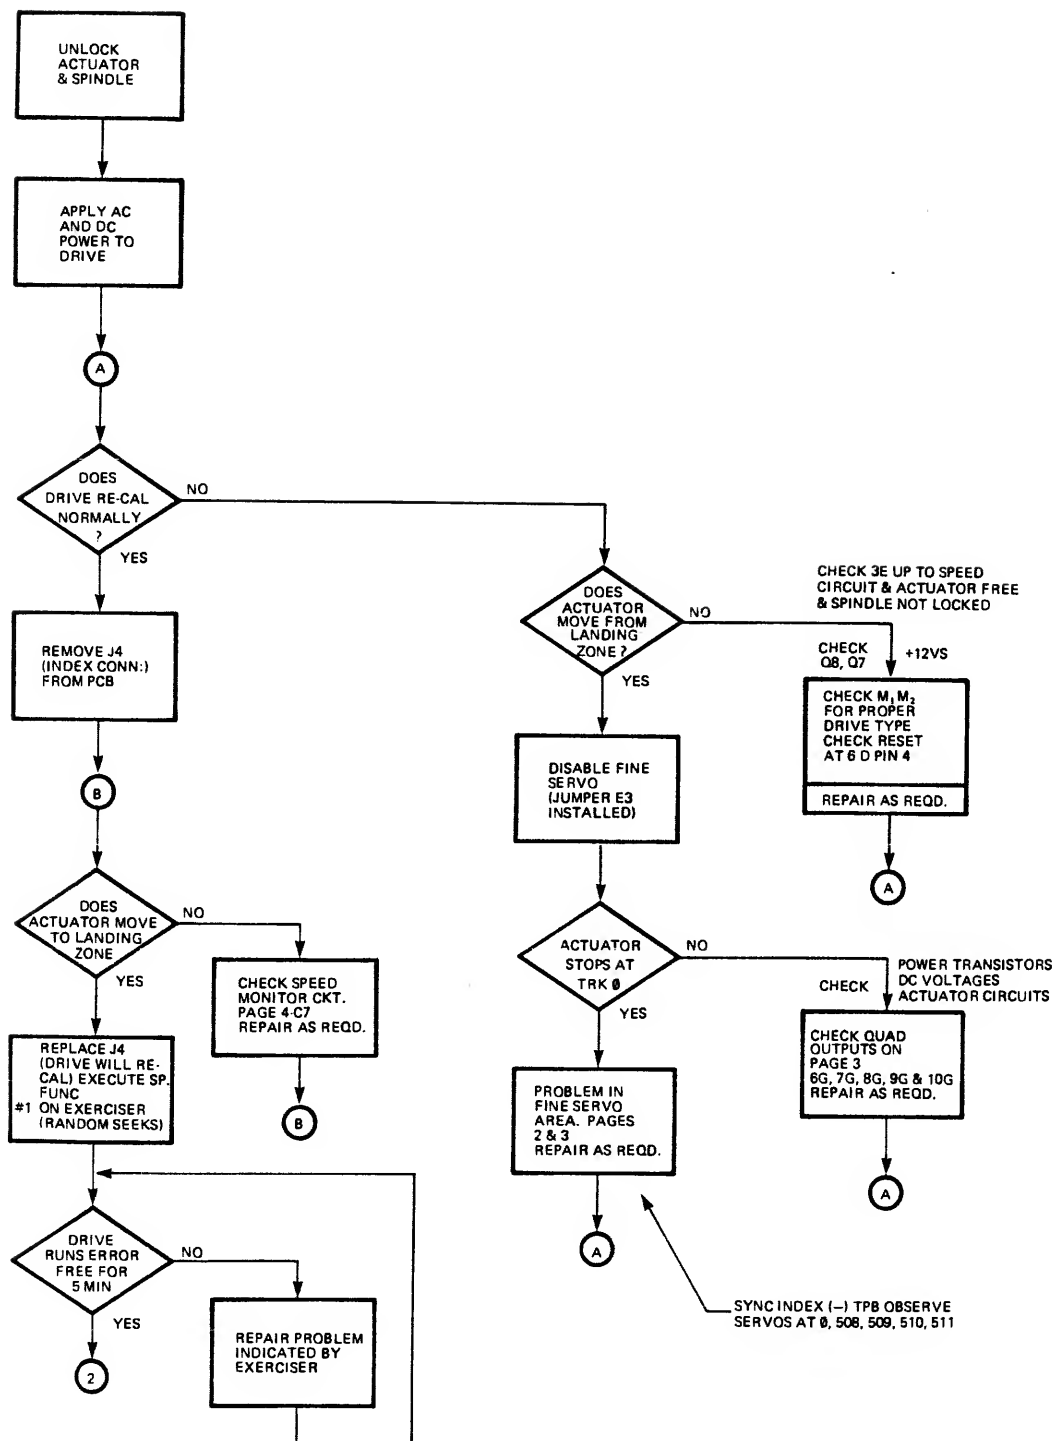

FIGURE 5-3
- 1) Remove the interface and DC power cables, the drive transistor cable and the index cable. See Figure 5-3 for the connector locations.
Figures 5-3 through 5-6, are intended to be used as generalized guide for testing and troubleshooting the drive control PCBA of the Series 2000. The flowchart requires test equipment that will allow the user to: seek to, and write or read on selected tracks and heads. The user should also be skilled in both analog and digital troubleshooting techniques.